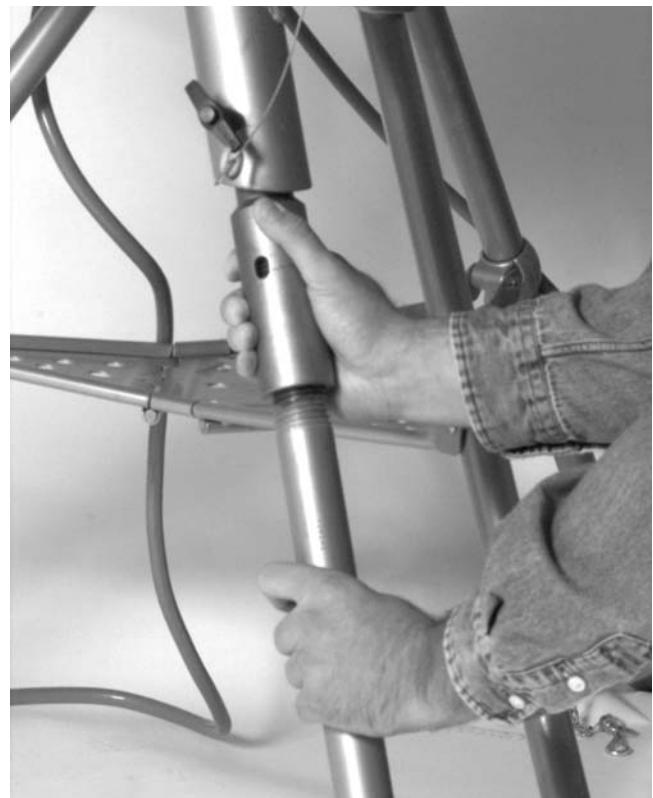

Figure 6 – Adjusting Legs to Level Groover
7. Turn the upper portion of the leg counterclockwise until it makes contact with the ground. Adjust both legs until the unit is level (*Figure 6*).